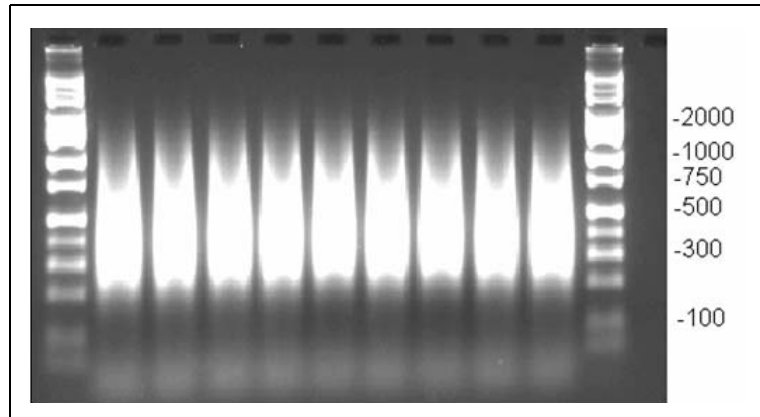

Figure 4.3
Check the PCR reactions on a gel to ensure that the distribution is correct (see Figure 4.3). 90 µg of PCR product is needed for fragmentation.
11. Verify that the PCR product distribution is between ~250 bp to 1100 bp (see Figure 4.3).